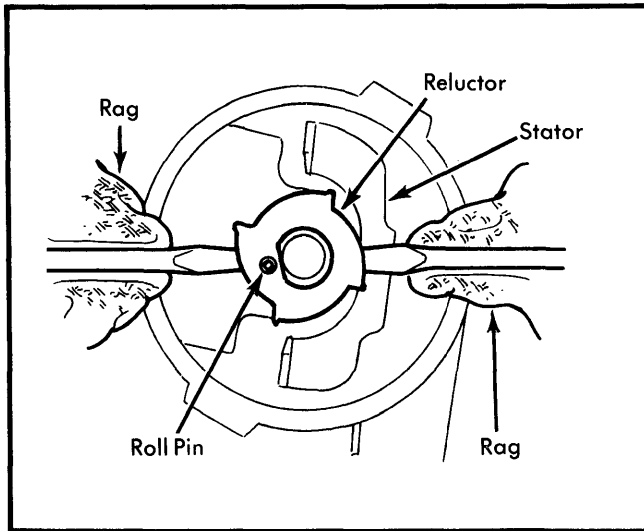

Fig. 9 Removing Reluctor from Shaft
2) Carefully pry upward on reluctor with 2 screwdrivers, cushioned with rags to prevent damage to distributor housing. See Fig. 9. Use care not to damage reluctor or stator. When installing reluctor, drive roll pin in place with its gap away from distributor shaft.